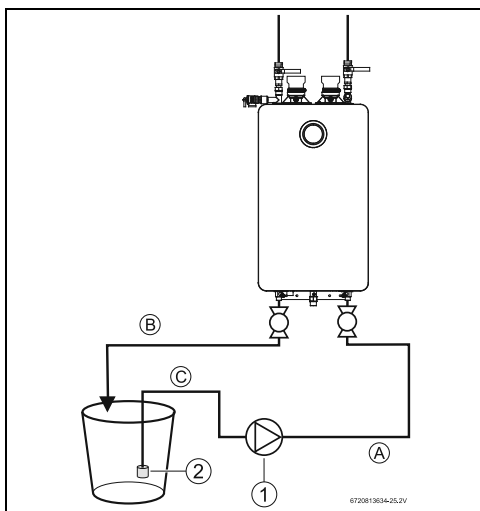

Fig. 50
- ▶ Connect a line (A) from the outlet of the circulating pump (installer supplied) to the inlet drain connection on the water heater (see fig. 50.)
- ▶ Using another line (B), connect the outlet drain connection on the water heater. Route the other end of this line into a descaling reservoir.
- ▶ Using a 3rd line (C) from the descaling reservoir, connect to the inlet side of circulating pump. Install a filter on the end of the line in the descaling reservoir.